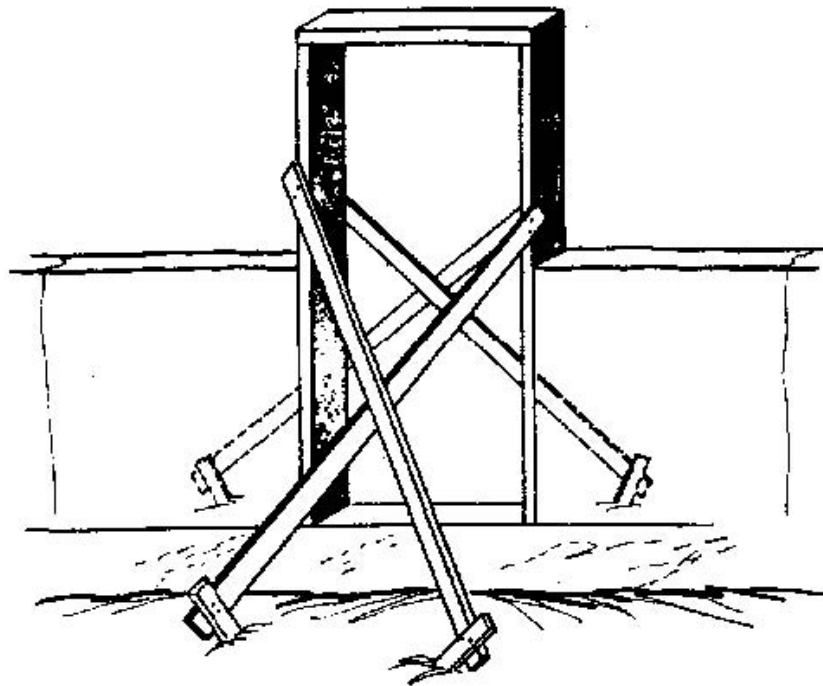

Figure 82.
**DOOR AND WINDOW OPENINGS** - Openings for doors and windows can be done two ways in rammed earth construction. One way is to set the door and window frames first and ram the earth around them. If this is done the frames should be solidly braced as shown in Figure 82 otherwise they will be forced out of place by the high pressures produced by ramming. Brace door and window frames across the diagonals also so the openings will